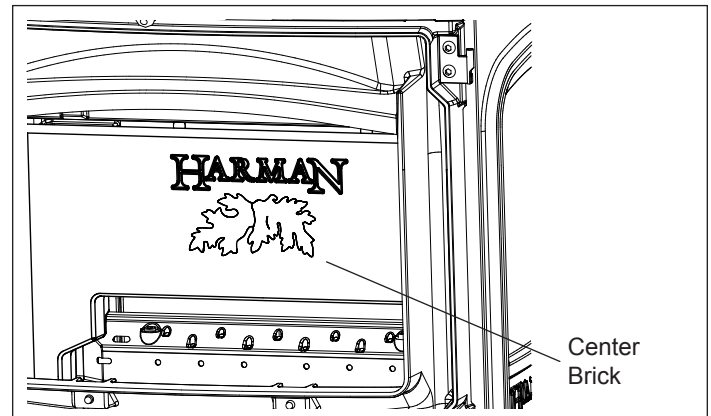

Figure 3
3. Remove the decorative center brick. Figure 3.